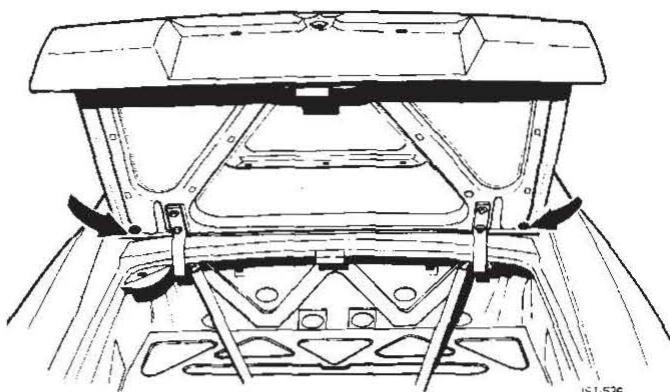

FIG 5
- a) Seal with body caulking compound, Fig 5.